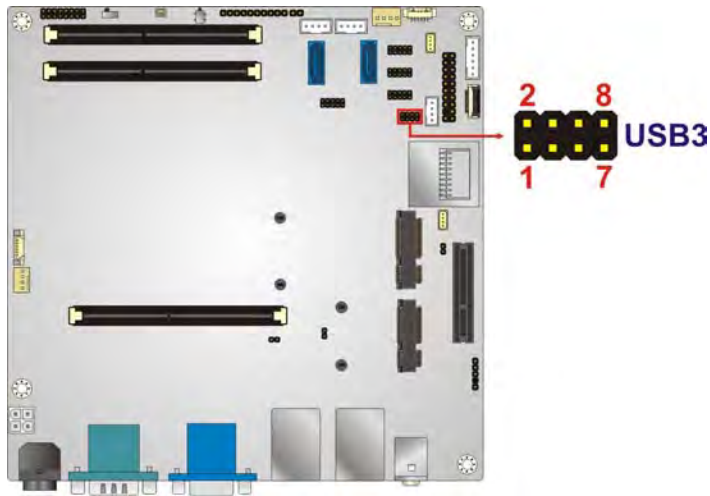

Figure 3-28: USB Connector Locations
- CN Location: See **Figure 3-28**